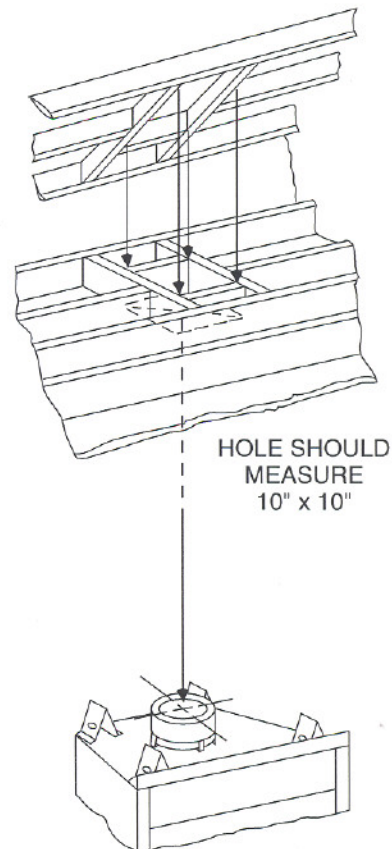

Figure 14
6. Marking the exit point in the roof. Locate the point where the chimney will exit the roof by plumbing down to the center of the chimney. Drive a nail up through the roof to mark the center. See Figure 14.